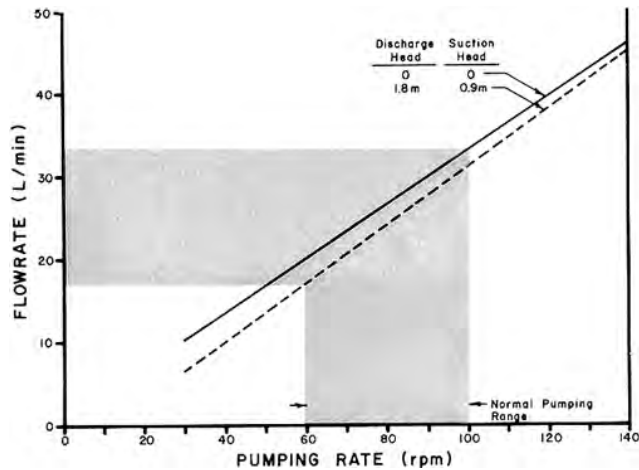

FIGURE 2. Flowrates with Diesel Fuel at Two Suction and Discharge Heads.
**Flowrate:** Pump performance characteristics with diesel fuel at two different suction and discharge heads are given in FIGURE 2. Suction head is the distance the fuel level is below the pump and discharge head is the height the outlet nozzle is held above the pump. Suction heads of 0 and 0.9 m (0 and 3 ft) correspond to full and empty levels of typical farm truck fuel storage tanks.